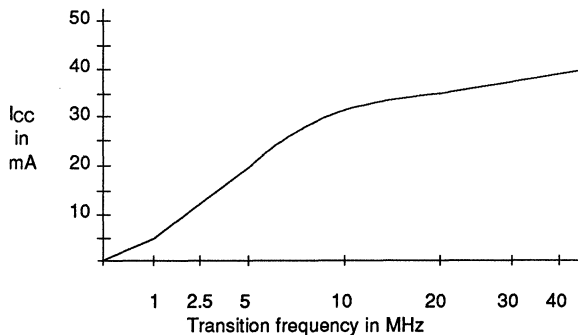

Figure 6. Typical Icc vs Input or Clock transition frequency for 22CV10Z ( zero-power mode)
The "Zero-power" mode is best used for combinatorial applications since sequential functions will be powered-up with every edge of the clock. Significant power savings can still be realized, however, when running the clock at a modest rate. Figure 6 shows the typical  $I_{CC}$  vs Input transition frequency for the 22CV10Z when the zero-power mode is programmed.
9. Test conditions assume: signal transition times of 5ns or less from the 10% and 90% points, timing reference levels of 1.5V (unless otherwise specified) and specified test loads (figure 6)